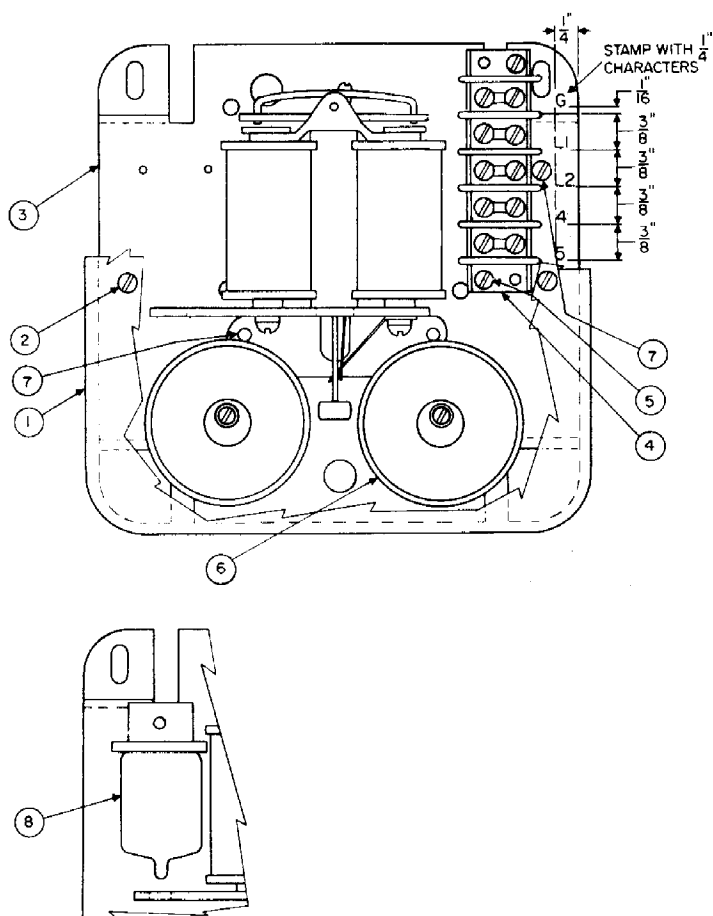

Figure 1. Type 33 Ringer Unit.
4.01 The Type 33 Ringer Unit (Figure 1) is a separate audible signaling device used with coin telephones, telephone sets not equipped with ringers, or when an auxiliary signal is required for other types of telephone sets. The Type 33 ringer unit, equipped with a Type 45 ringer or Type 48 ringer, is contained in a plastic housing measuring 5-1/2 inches wide, 5-1/4 inches long, and 2-1/8 inches deep. The square shaped housing is available in a variety of colors (Table 2). This ringer may be modified to provide straight-line, superimposed, or harmonic ringing. The ringer capacitor, on the ringer, is replaced by a cold cathode tube when superimposed ringing is desired. The ringer unit also contains a terminal strip where the ringer wiring, telephone line cord, and station wires (from the station protector) are connected. The ringer is essentially composed of two gongs, two ringer coil(s), and the clapper assembly (Table 3).
4.03 To assemble the Type 33 Ringer Unit (Figure 1) proceed as follows:
- (a) Mount the ringer assembly (item 6) on the baseplate assembly (item 3) and insert the three ringer mounting screws (item 7) from the rear of the baseplate and fasten.
- (c) Mount the terminal strip (item 4) parallel to the right coil of the ringer. Insert and fasten the two terminal strip mounting screws (item 5). Connect each lead to the desired terminal strip terminal.
- (d) If necessary renumber the terminal strip designations as shown in Figure 1. Replace the cold cathode tube (item 8) (if so equipped) in the upper left hand corner of the baseplate assembly (item 3). Install and fasten the cold cathode tube mounting screws (item 9) as shown in Figure 1.
- (e) Place the cover assembly (item 1) over the ringer assembly and baseplate assembly. Insert and fasten the two cover screws (item 2) on each side of the cover assembly.